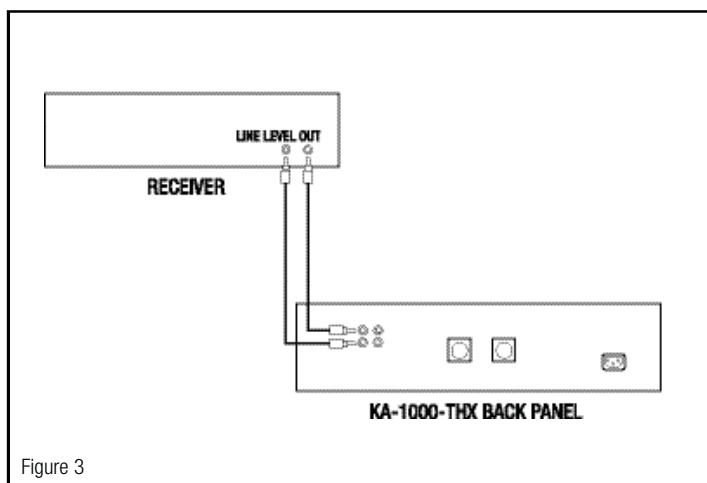

Figure 3
**Connection** – Some analog A/V receivers and processors (without Dolby Digital® or DTS® capability) have a line-level subwoofer output. Others have left- and right-channel line-level outputs, as do some stereo receivers and integrated amplifiers. All separate stereo preamps and surround processors have line-level outputs. If your system is built around one of these, it will almost always be best to use the KA-1000-THX with the THX switch in the “Off” position. This will activate the crossover and level controls. These types of outputs should be connected to the KA-1000-THX’s line-level inputs (Figure 3). You will need one or two shielded, high quality interconnect cables of appropriate length with RCA plugs on each end. Your dealer can help you select suitable cables.